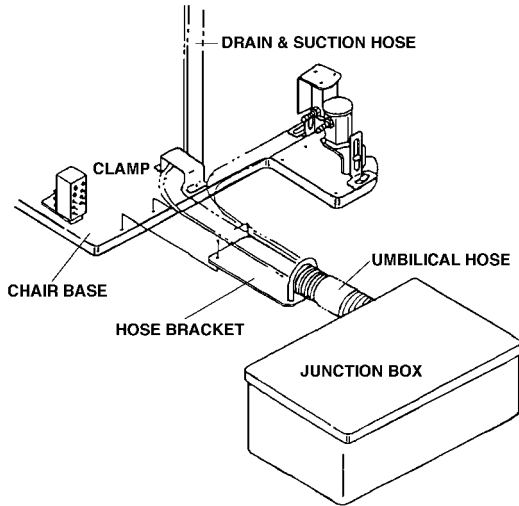

Fig.6-1 Installation of Junction Box
1. Installation of the Junction Box (Junction Box Type only) (Fig.3-4 or Fig.3-5 and Fig.6-1, Table.6-1)